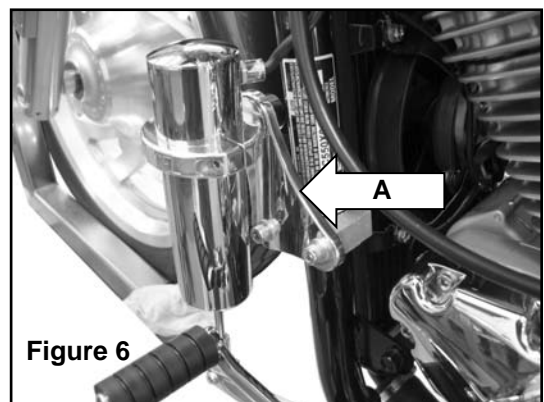

Figure 6
An aluminum shift cylinder support bracket, (A) in figure 6, will be mounted to the frame. This support bracket mounts to the frame with an aluminum frame clamp. Fit the back half of the frame clamp between the radiator and the frame just below the identification label, see figure 7. Insert the two 5/16-18 x 2 1/2" socket head cap screws with thread locker applied through the two 5/16" washers, the two holes of the shift cylinder support bracket, the two holes of the outer half of the frame clamp and attach the assembly to the inner frame clamp, as shown in figure 7. Note: just snug these bolts for now, as later steps involve perfectly aligning the clamp with the Pingel shift lever bracket.